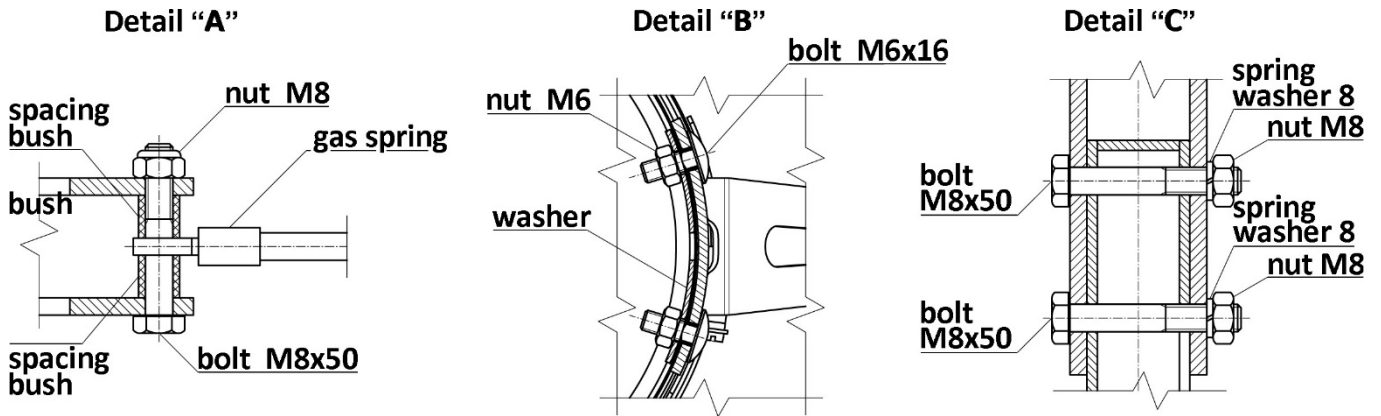

Fig. No.6 – Assembly instruction of the extraction arms type ERGO LUX-{M;K;L;D}-R
7. Screw up the element of the hood joint, with the pipe – according to the information in Fig. No.6, Detail “B”.